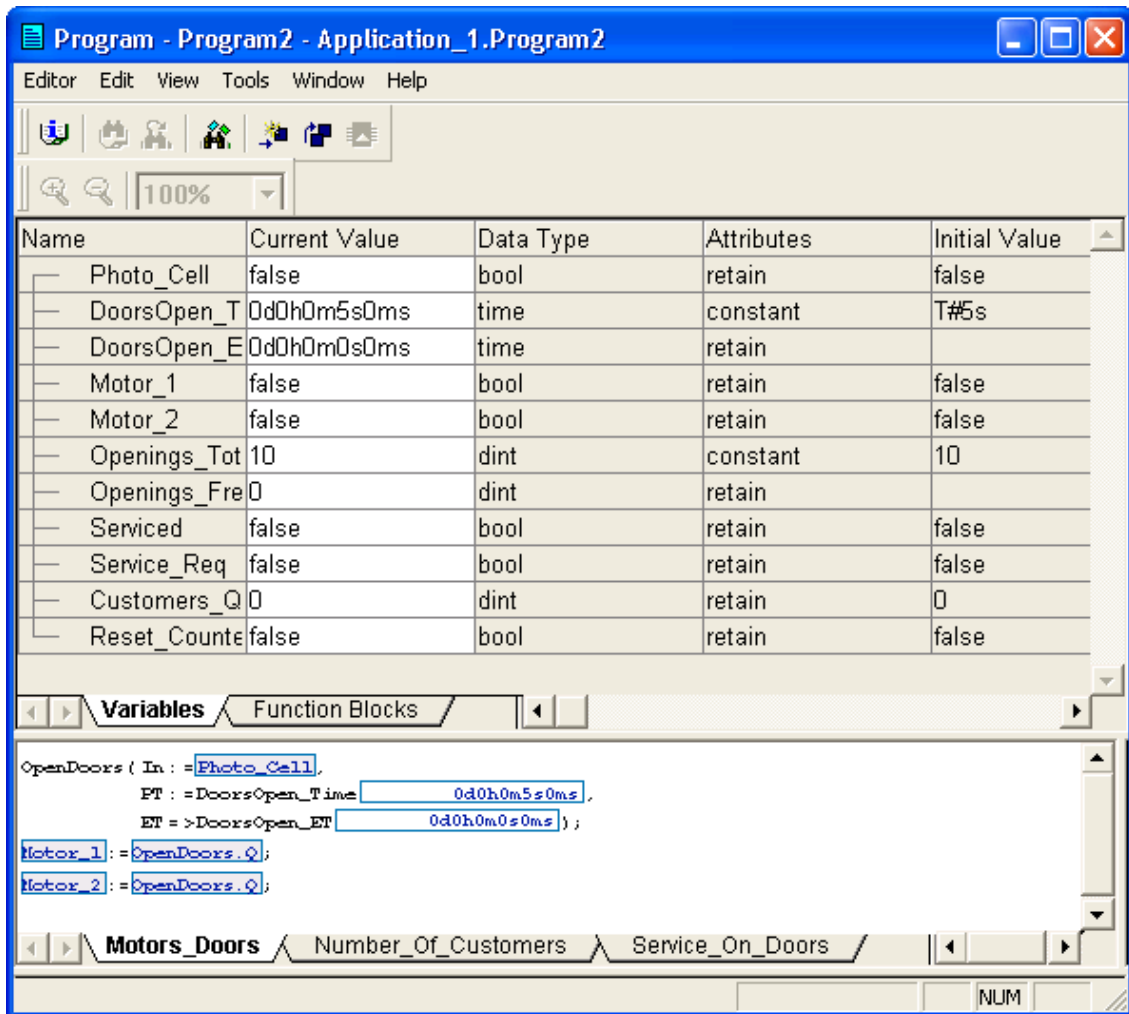

Figure 38. The Program2 editor in Test mode
6. Select **Motors_Doors** tab. All variables in **Program2** are listed in the upper pane and the code in the lower pane, see Figure 38.